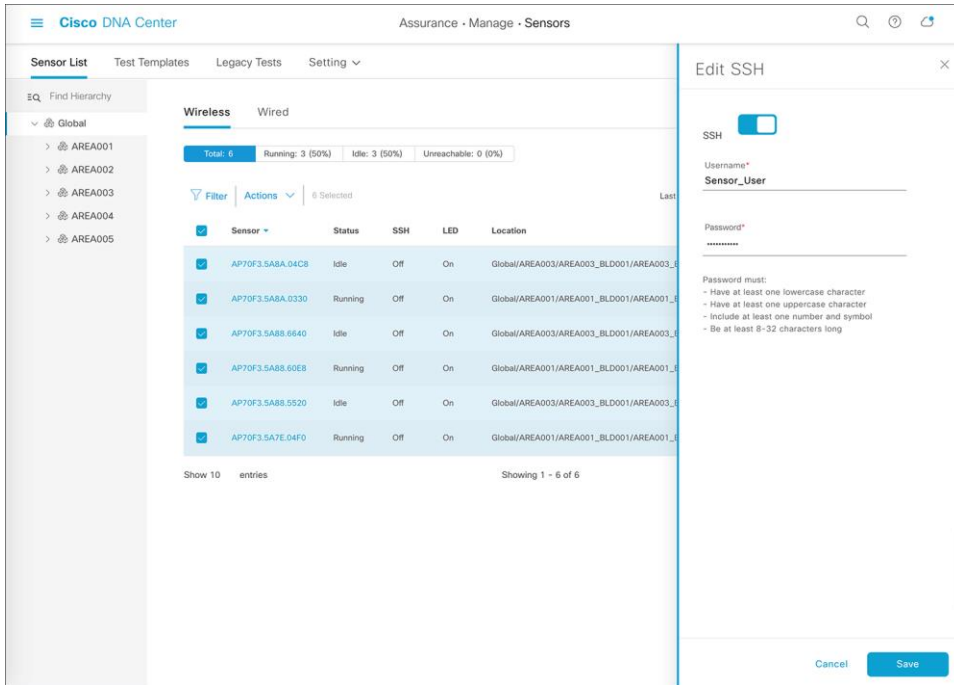

Figure 105.
1. To manually reenale SSH on your sensor(s), open the hamburger menu and click Assurance > Manage > Sensors, then select the sensor(s) you would like to enable SSH on. Hover your cursor over the Actions drop-down menu, click Edit SSH, and then enter your desired username and password (**Figure 105**).